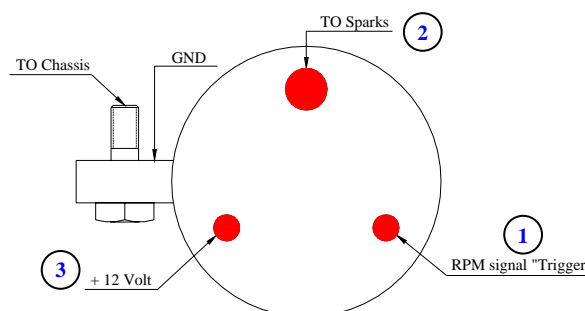

Figure 5: coil wirings
The coil, shown in Figure 5, is usually a black cylinder with 3 wires:
- One of them is connected to the spark plug (labelled as “TO Sparks” in Figure 5);
- Another one is connected to the battery’s positive pole (labelled as “+12 Volt” in Figure 5);
- **The last one (labelled as RPM signal “Trigger” in Figure 5) represents the RPM signal.**
**Please remember that the adapter’s WHITE wire, labelled as “RPM COIL 150-400 V” has to be connected to wiring RPM signal “Trigger”, labelled as 1 in Figure 5.**
- Connect the interface’s white wire, labelled as “RPM COIL 150-400 V”, to the coil’s RPM output (labelled as RPM signal “Trigger” in Figure 5);
This electronic component allows the user to power the RPM filter using the coil "12 V" cable (see Figure 5). Anyway, it is strongly suggested to connect the red wire downstream the bike's/car's master switch.